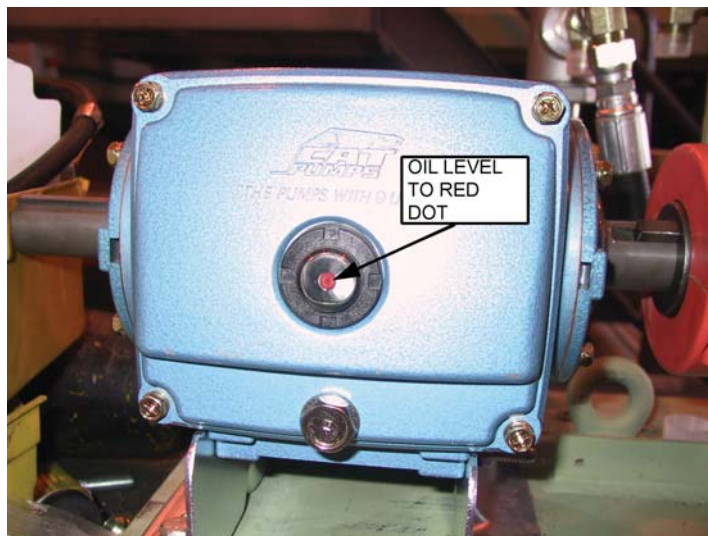

Fig. 9-6 Cat Pump Oil Level Sight Window (back of pump)
- Fill with oil to red dot in sight window on back of pump (Fig. 9-6).